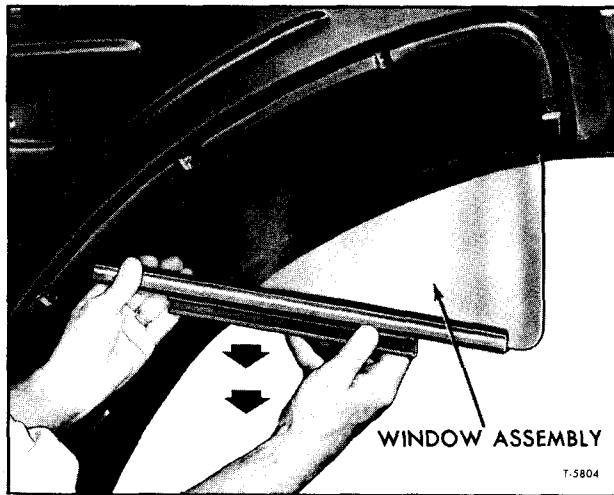

Figure 20—Removing Door Window Glass
9. Tilt and lower glass assembly through lower access opening (fig. 20).